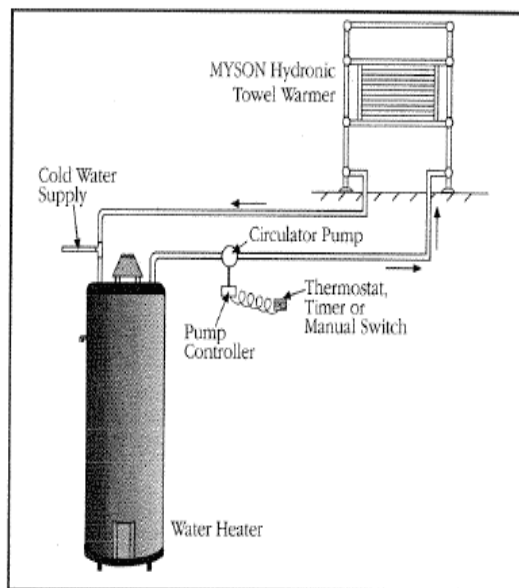

fig 6: Domestic Hot Water Heater Connection
1. MYSON Towel Warmers are brazed with lead free materials, and are compatible with open loop domestic hot water systems. See fig 6. Hot water temperature must be set to a maximum of 150°F.
2. For radiant heat systems operating at about 120°F, follow the instructions for connection to domestic hot water heaters in fig 6.